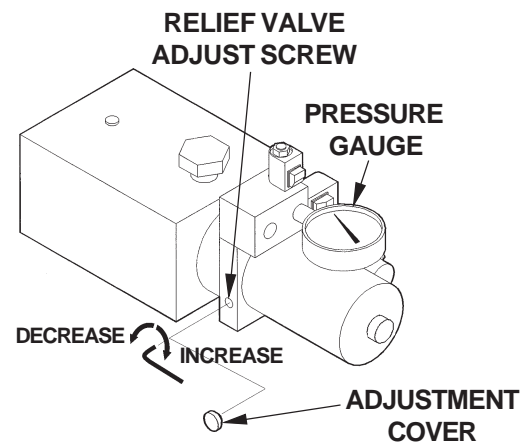

FIG. 44-2
3. With Platform on the ground, remove the pressure hose and fitting from the Pump and replace it with a 0-3000 PSI Pressure Gauge. Hold the switch in the "UP" position. Adjust the Relief Valve on the side of the Pump until the gauge shows 2200 PSI (**FIG. 44-2**). Remove gauge and reinstall pressure hose.